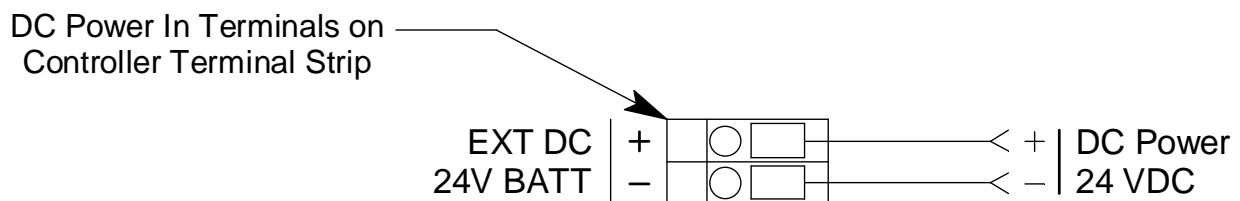

Figure 12: DC Power Wiring
6. Connect the DC power wires to the controller terminal strip as shown in Figure 12 below.